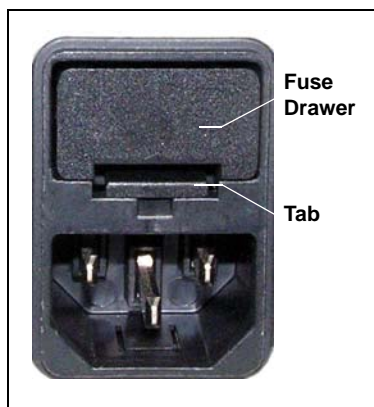

Figure 10-13. Fuse Drawer
4. The fuse drawer is located above the power receptacle (see Figure 10-13). A small tab locks the fuse drawer in place. Using a small screwdriver, press the tab *in* and *then up* to release the fuse drawer.